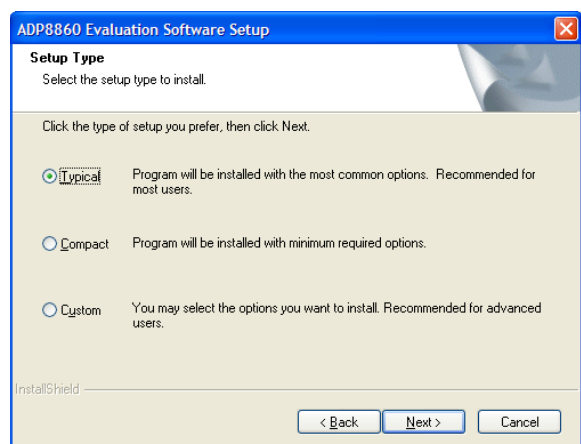

Figure 5. Setup Type
4. Select the **Typical** set up type and click **Next>** to continue with the installation (see Figure 5).